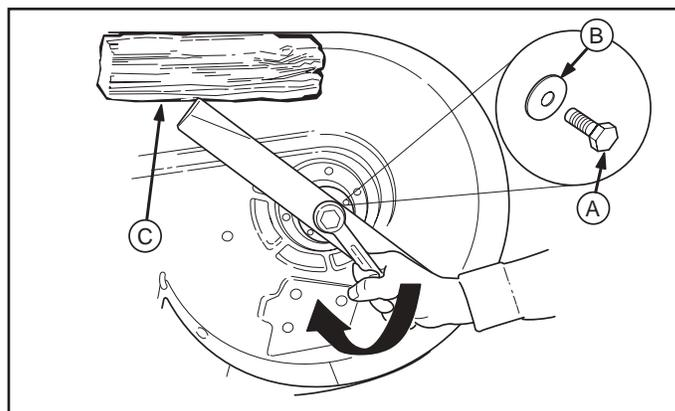

Figure 21
3. Remove capscrew (A, Figure 21), spring washer (B) and blade.
6. Reinstall the blade (Figure 21) with the airlifts pointing up toward the mower deck as shown.
7. Reinstall the spring washer (B) and capscrew (A). Use a wooden block (C) to prevent blade rotation while tightening the capscrew (A) to 50-60 ft-lbs (68-81 Nm).